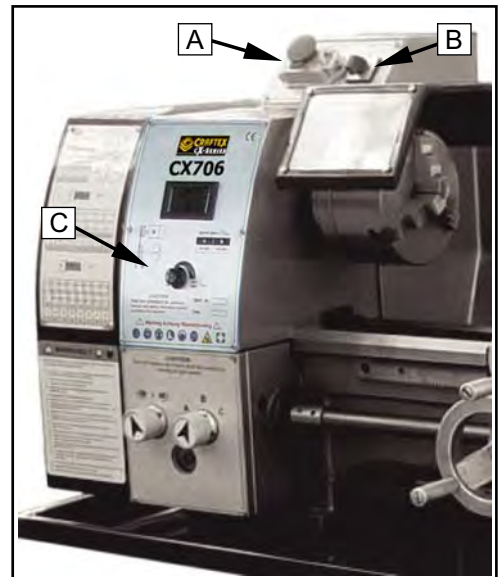

Fig. 11
1. Emergency GHCD Button ON/OFF Switch (A, Fig. 11)
2. Change-over Switch (B, Fig. 11)
3. Variable Speed Control Switch (C, Fig. 11)